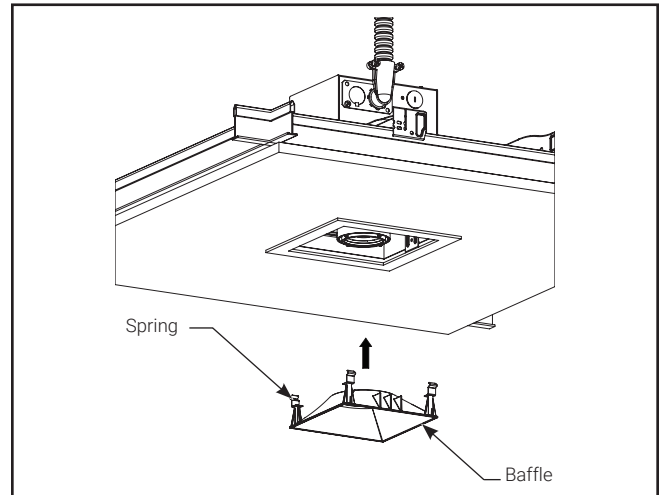

Figure 12.
8. Install Baffle into the housing. Push baffle assembly up through trim while installing, push the springs inward and push the baffle up. (Figure 12)